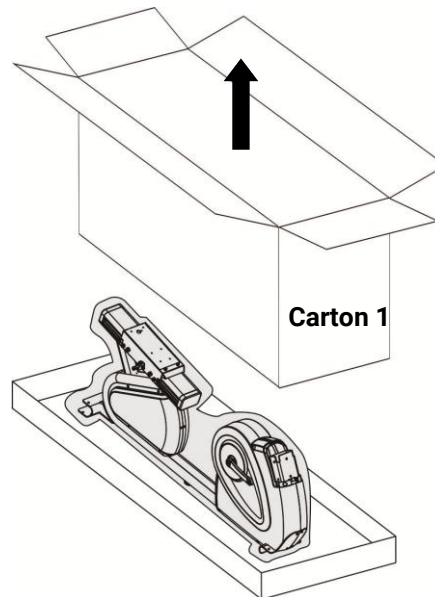

Fig 2.4-1
2. Open the **Carton 1** and remove the upper cardboard piece. Lift the cover upward and set it aside. (Fig 2.4-1)